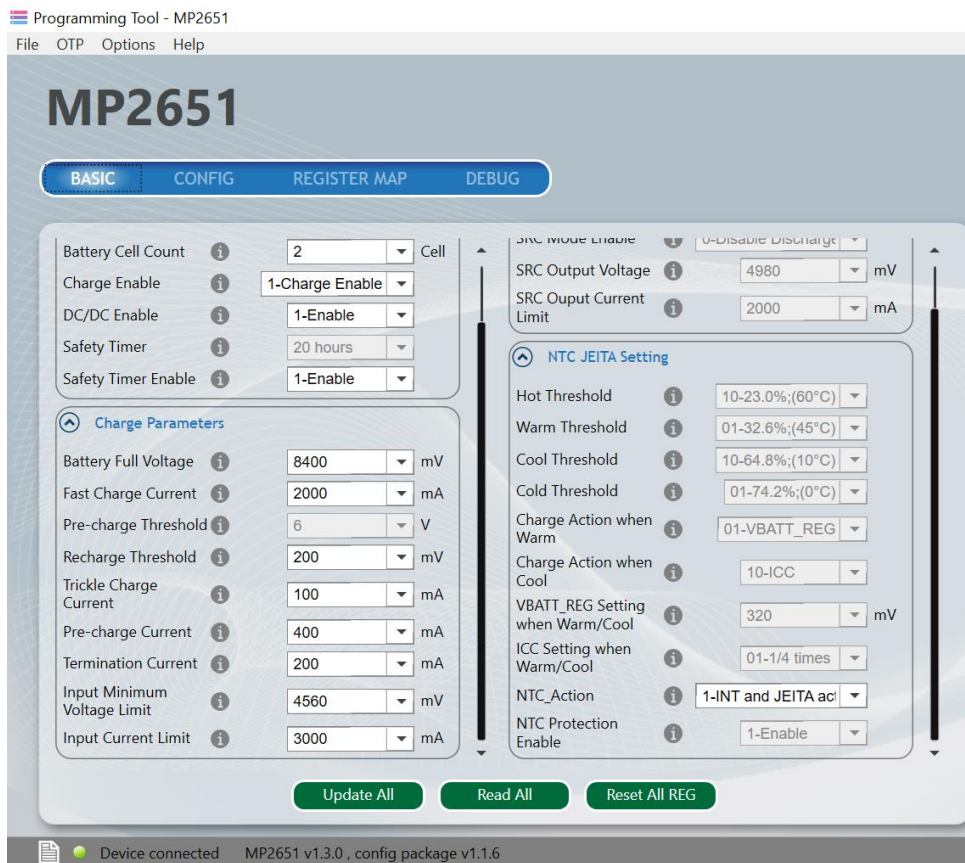

Figure 12: Adjustable Parameters in OTP Mode
- Enter a new table (see Figure 12). All selectable parameters can be changed.